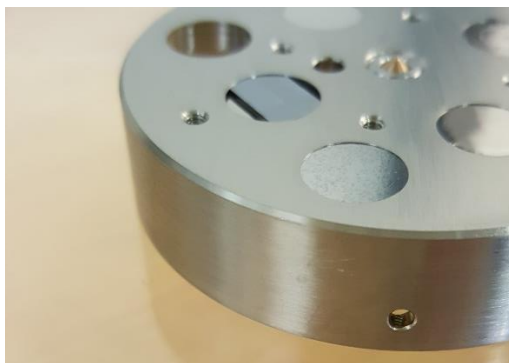

Figure 275: sample perfectly flat and in good contact with the holder's lip
- Place the sample(s) in the appropriate hole(s), so that it comes in contact with the lip (Figure 275). Be cautious not to bend the lip which is very thin (100µm). Potentially, add a 100µm-thick ring if the sample does not fit perfectly to the hole.